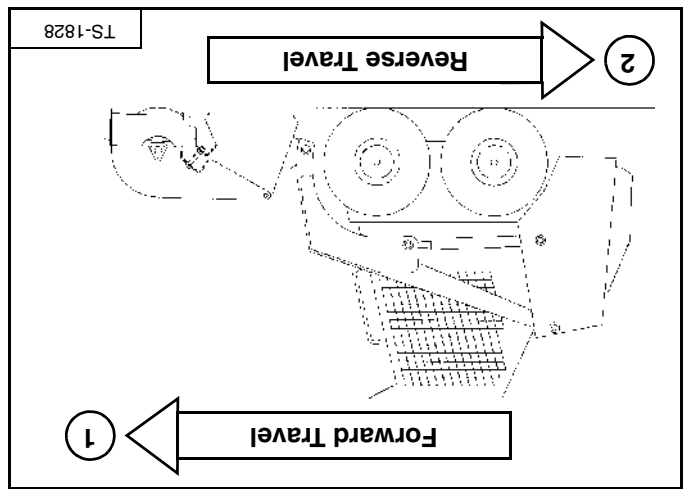
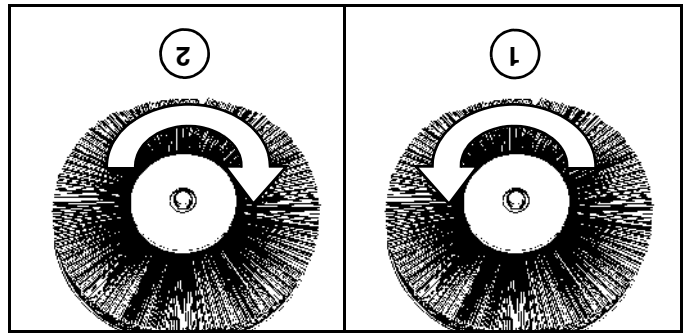

Figure 57
Figure 58
When travelling in the forward direction (item 1) [Figure 57] operate the sweeper in the anticlockwise direction (item 1) [Figure 58] with the cutting edge slightly above the surface to be swept.
NOTE: Travelling in the forward direction (item 1) [Figure 57] reduces wear on cutting edge and reduces scratching of swept surface.
When travelling in the reverse direction (item 2) [Figure 57] operate the sweeper in the clockwise direction (item 2) [Figure 58] with the cutting edge set on the surface to be swept.